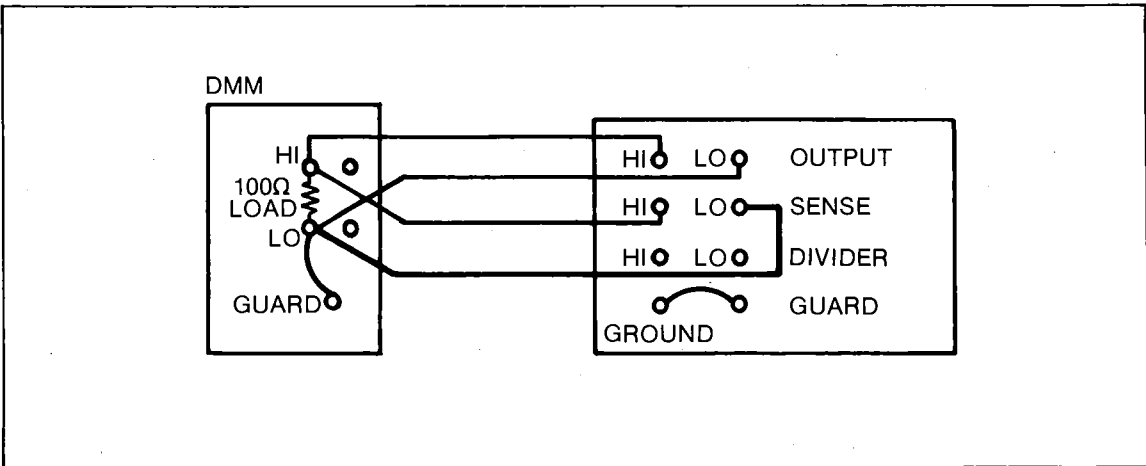

Figure 3-7. External Sense Test
2. Connect the equipment at shown in Figure 3-7 with the DMM set to the